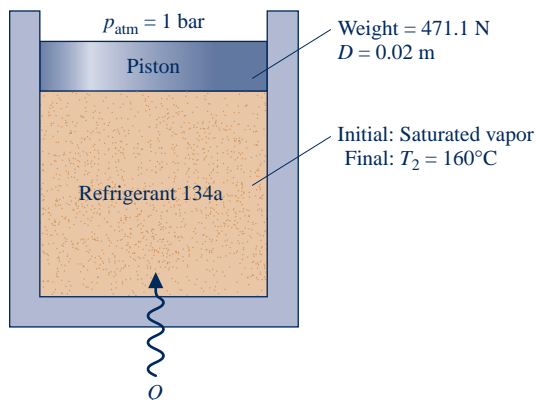

Fig. P3.37
- 3.37** As shown in Fig. P3.37, Refrigerant 134a is contained in a piston–cylinder assembly, initially as saturated vapor. The refrigerant is slowly heated until its temperature is 160°C. During the process, the piston moves smoothly in the cylinder. For the refrigerant, evaluate the work, in kJ/kg.